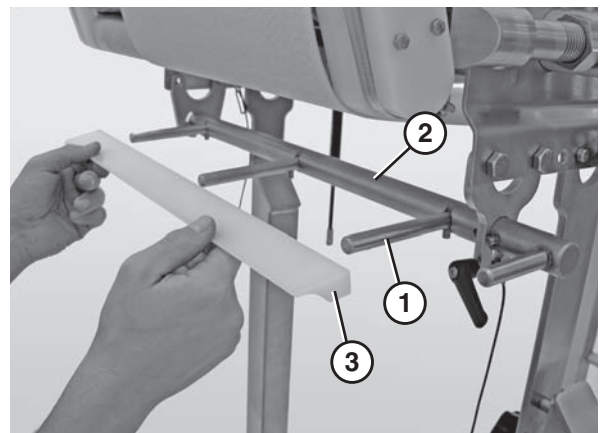

Figure 29
4. Attach the scraper bar holders (Figure 29, item 1) to the scraper shaft (Figure 29, item 2).
5. Attach the UWHM scraper (Figure 29, item 3) to the scraper bar holders (Figure 29, item 1).